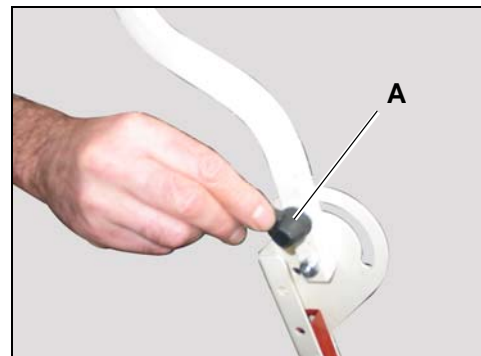

FIG. 1
Unscrew the knobs illustrated in figure 1 and hold down the handle.
Raise the handle and lock at the requested height and position, by tightening the knobs (A) illustrated in figure 1.